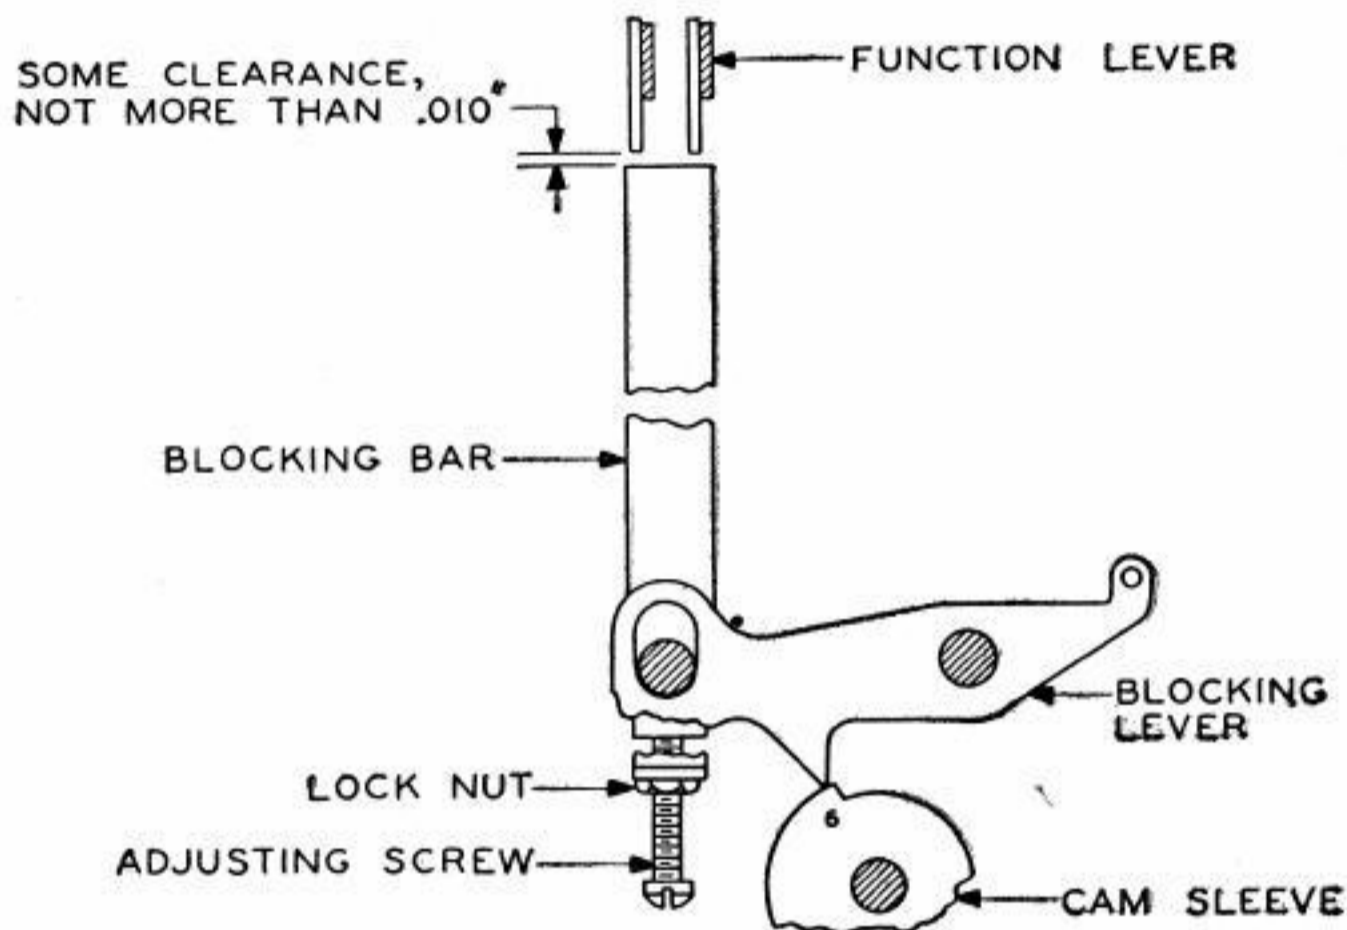

Fig 45
4.21 **Timer Blocking-Bar: (BS6L)** With any selection, except SPACE, X or BLANK, set up on the SEQUENTIAL SELECTOR, the timer blocking-lever on the high part of its cam, and the codelevers resting on the vanes, there should be some clearance, not more than .010", between the top of the timer blocking-bar and its associated function lever. To adjust, loosen the lock-nut on the timer blocking-bar adjusting screw and position the adjusting screw. Tighten the lock-nut. **Fig 45**